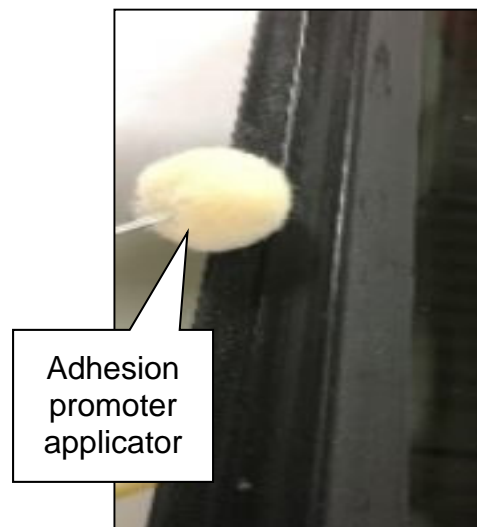

Figure 11
7. Apply 3M® adhesion promoter (2262AT) to the seal surface (Figure 11).